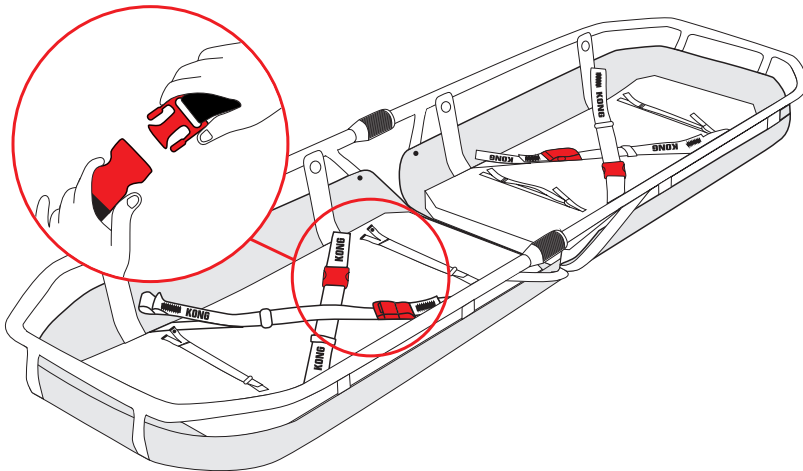

Fig.10
- unhook the buckles and open the securing straps (fig. 10),